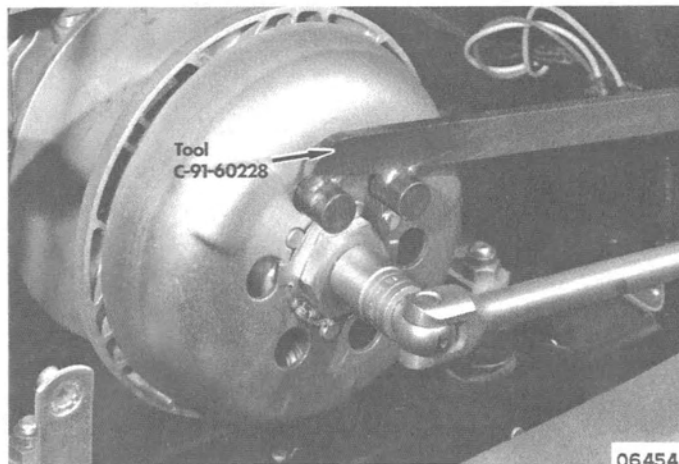

Figure 1. Holding Drive Sheave with C-91-60228 Tool
3. Hold drive sheave with C-91-60228 tool and remove retaining bolt and washer. (Figure 1)